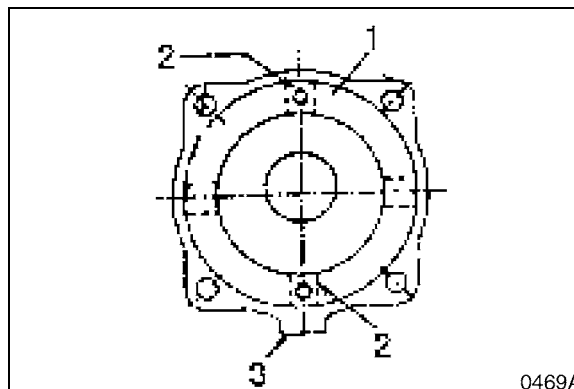

Figure 40
- Position brake piston (1, Figure 40) in casing. The diagram shows position of four piston grooves (2) in relation to valve connected side (3), and two 8 mm bolts which must be tightened in an even, progressive rotation.